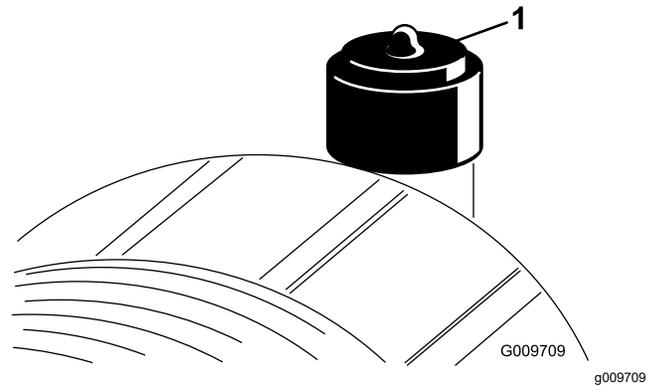

Figure 56
Service the air-cleaner filter only when the service indicator (Figure 56) requires it. Changing the air filter before it is necessary only increases the chance of dirt entering the engine when you remove the filter.
2. Reset the indicator (Figure 56) if it shows red.